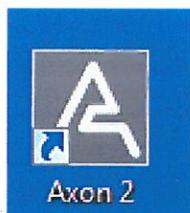

Figure 2: Desktop Icon
3. **OPEN** the **AXON** software (Figure 2).